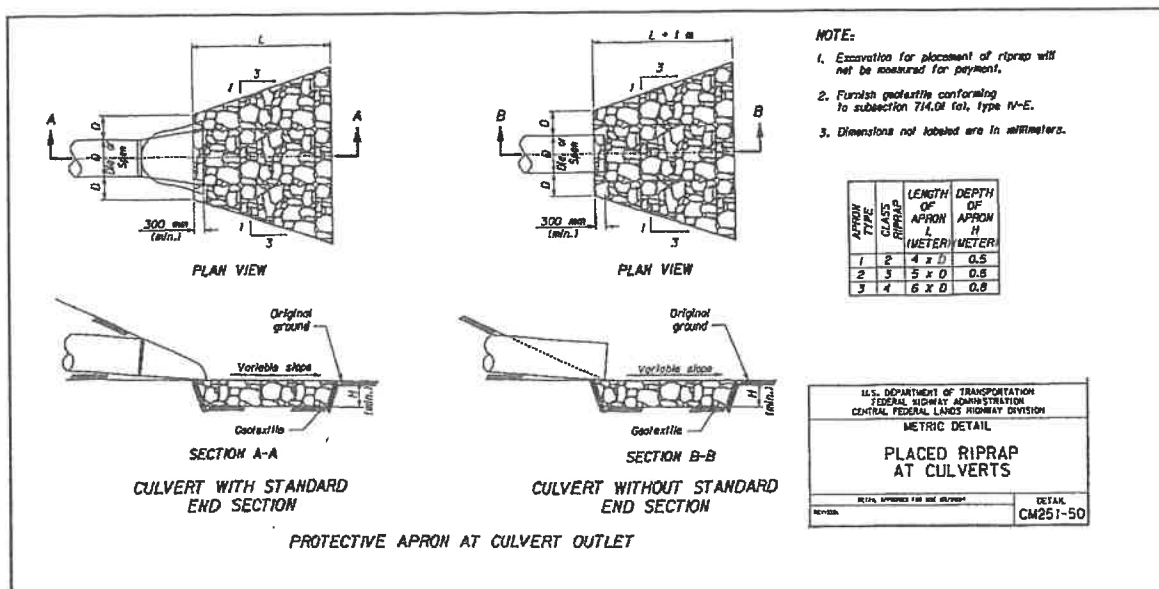

Figure 10.4. Placed Riprap at Culverts (Central Federal Lands Highway Division)
*Using the attached Figure 10.4 and Table 10.1 from the Federal Highway Administration Publication July 2006 Hydraulic Engineering Circular No. 14, Third Edition Hydraulic Design of Energy Dissipators for Culverts and Channels*
The most commonly used device for outlet protection, primarily for culverts 1500 mm (60 in) or smaller, is a riprap apron. An example schematic of an apron taken from the Federal Lands Division of the Federal Highway Administration is shown in Figure 10.4.
The apron dimensions must also be specified. Table 10.1 provides guidance on the apron length and depth. Apron length is given as a function of the culvert rise and the riprap size. Apron depth ranges from 3.5D50 for the smallest riprap to a limit of 2.0D50 for the larger riprap sizes. The final dimension, width, may be determined using the 1:3 flare shown in Figure 10.4 and should conform to the dimensions of the downstream channel. A filter blanket should also be provided as described in HEC 11 (Brown and Clyde, 1989).